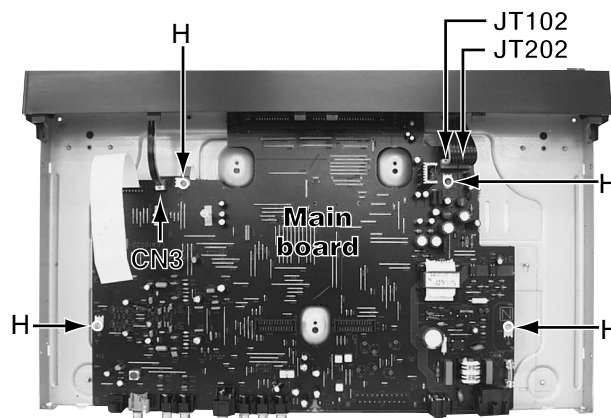

Fig.9
■ Removing the main board (see Fig.9)